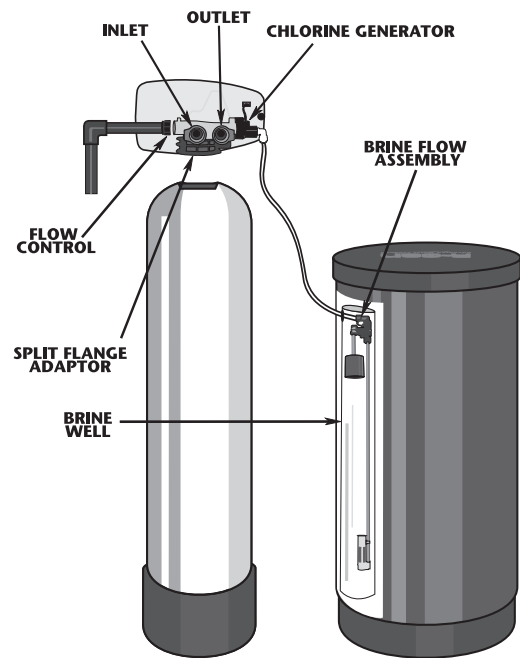

Figure 4
- In the brine tank there is a piece of flexible brine tube. This tube runs from the brine flow control assembly (in the brine tank, *Fig. 4*) to the chlorine generator, located on the control head. Remove chlorine generator from valve and insert tubing into generator, fitting firmly; pull on tubing making sure it is secure. Do not attach other end to the brine tank, as this will be covered in start-up procedures. Reattach generator to valve, making sure clip is secure.
- The drain line must be connected from the drain line flow control (*Fig. 4*), to a floor drain, sump pump, etc. This pipe is not provided with your water conditioner and is the responsibility of the installer. Check your local plumbing code for approved piping. In any case, it should be of adequate inside diameter to allow for proper drainage. Secure pipe to flow control and run to drain.